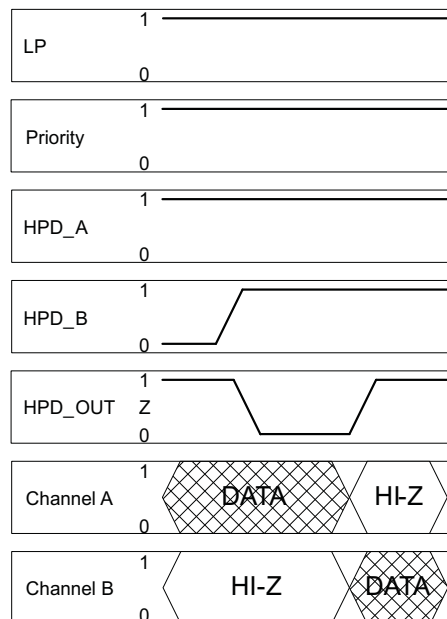

Figure 44.
- Case two: In this case the HPD input that is initially HIGH is not the port with priority. When the HPD input of the port that has priority goes high, the HPD output is forced LOW for some time in order to simulate an unplug event to the source device. The duration of this LOW output is defined as  $t_{T2(HPD)}$ . If the HPD input of the port with priority pulses LOW for a short duration while the  $t_{T2(HPD)}$  timer is counting down, the timer is reset. Once this time has passed the switch switches to the port with priority and the output HPD once again follows the state of the newly selected channel's HPD input (see Figure 44).